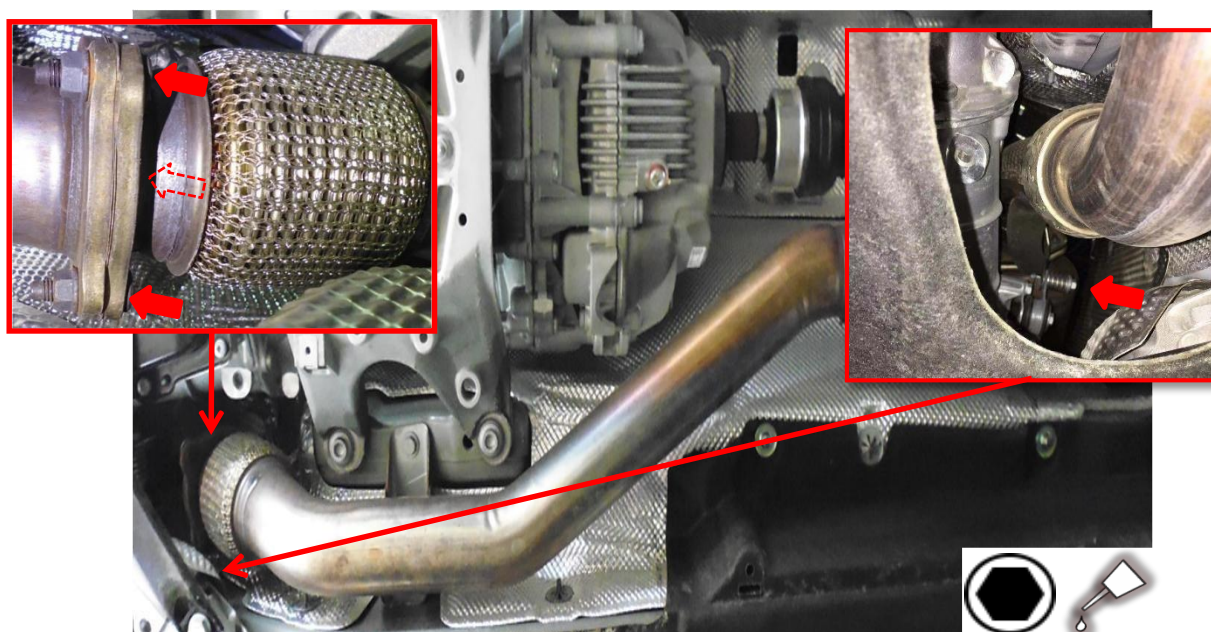

Figure 1-6
5. After removing the lower guard, remove the original front pipe with a 13mm hex wrench (Figure 1-6)